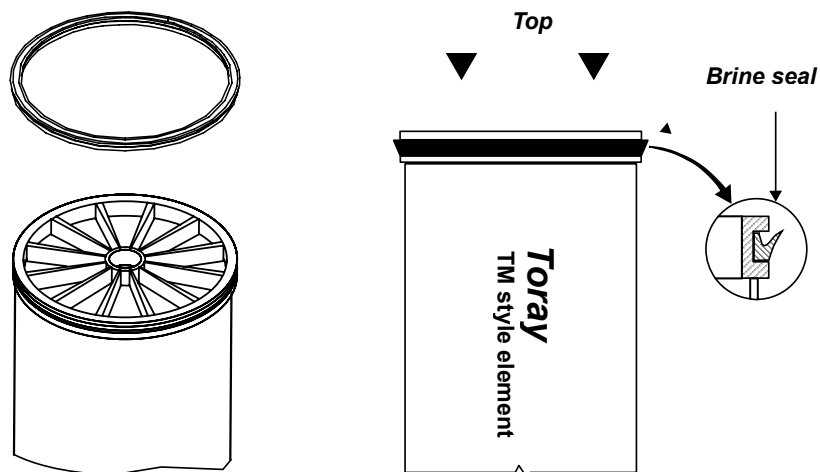

Figure TMM-200-2
1. Brine seal: Toray elements shipped from Toray Membrane USA (TMUS), Toray Membrane Middle East (TMME), Toray Bluestar Membrane (TBMC), Toray Membrane Foshan (TMFC) and Toray Advanced Materials Korea (TAK) comes with the brine seal pre-installed. Customers who received elements from TMUS, TMME, TBMC, TMFC or TAK can skip this step and only check the correct position of the seal. For other regions, follow the instructions illustrated in **Figures TMM-200-2** and **TMM-200-3**.